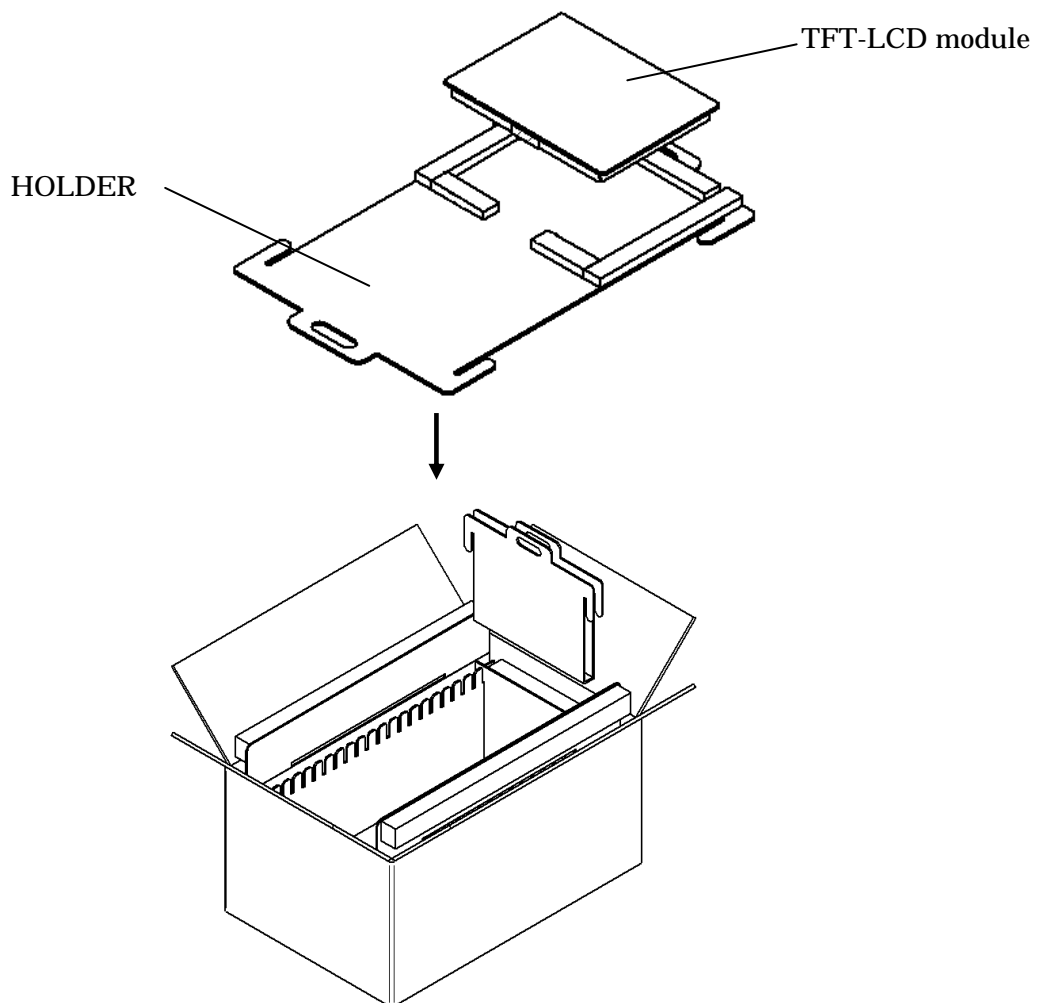

Fig 7
- (2) The packaging box contains 20 modules. (Fig.7)